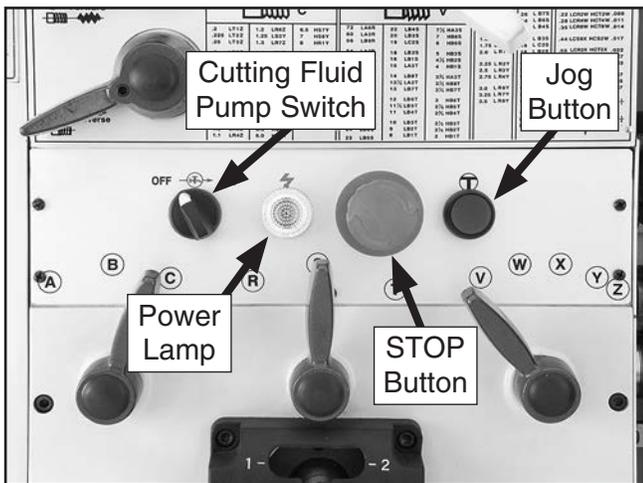

Figure 25. Control panel.
4. Push the STOP button on the control panel (see **Figure 25**), and point the coolant nozzle into the chip pan.